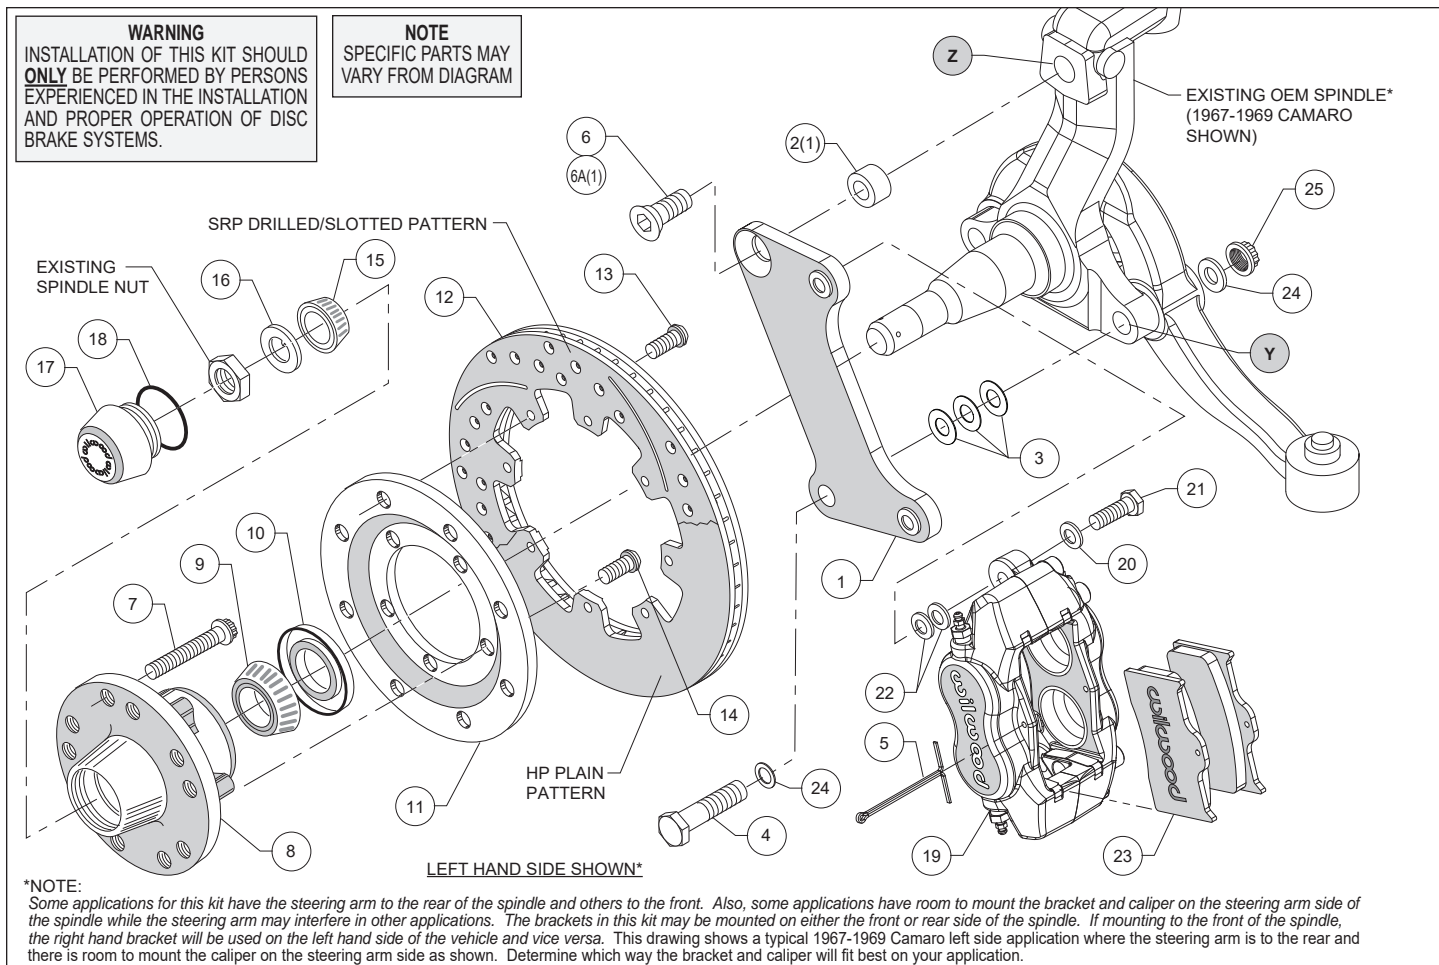
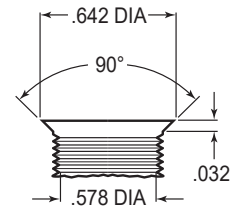

Figure 1. Typical Installation Configuration
Figure 3. Drill and Tap Detail
**Assembly Instructions** (numbers in parenthesis refer to the parts list and Figure 1 on the preceding page): **CAUTION:** All mounting bolts must fully engage clinch nuts. Be sure to check that all bolts are either flush or protruding through flanged side of clinch nut after shimming, Figure 4.
•**NOTE:** Some applications for this kit have the steering arm to the rear of the spindle and others to the front. Also, some applications have room to mount the bracket and caliper on the steering arm side of the spindle while the steering arm may interfere in other applications. The brackets in this kit may be mounted on either the front or rear side of the spindle. If mounting to the front of the spindle, the right hand bracket will be used on the left hand side of the vehicle and vice versa. Figure 1 shows a typical 1967-1969 Camaro left side application where the steering arm is to the rear and there is room to mount the caliper on the steering arm side as shown. Determine which way the bracket and caliper will fit best on your application.
•**NOTE:** Some spindles in this year range may require the following modifications (reference Figure 1 and Figure 3): Top anchor pin hole (Z) must be drilled and tapped to the dimensions as outlined in Figure 3. The lower bolt hole (Y) in the spindle used to mount the new caliper bracket, and the mating steering arm hole, must be enlarged to .50" by drilling. It is recommended these modifications be performed by a qualified machinist.
•Install wheel studs (7) into the hub (8), Photo 1. Torque to 77 ft-lb. **NOTE:** There are two five lug patterns in the hub (5 x 4.50 and 5 x 4.75). Ensure the correct hub stud pattern is being used to fit the wheel application.
- Pack the large inner bearing cone (9) with high temperature disc brake bearing grease (available from your local auto parts store) and install into the backside of the hub (8), Photo 2.
- Install the grease seal (10) by pressing into the backside of the hub (8), flush with the end of the hub, Photo 2.
- Orient the rotor (12) and the rotor adapter (11) as shown in Figure 1 and Photo 3. Attach the rotor to the adapter using bolts (13). Using an alternating sequence, apply red *Loctite*® 271 to the threads, and torque to 25 ft-lb.
- Mount the adapter/rotor assembly (11 and 12) to the hub (8) using bolts (14), as shown in Figure 1 and Photo 4. Using an alternating sequence, apply red *Loctite*® 271 to the threads, and torque to 45 ft-lb.
- Disc Brake Spindle Application Only:** Follow the instructions below, but instead use bolt (6A), and spacer (2) in the upper bolt hole location, Figure 1.
- Orient the flat bracket (1) as shown in Figure 1 and Photo 5, and install using bottom bolt (4), washers (24), and nut (25), Figure 1. Initially place three .032" thick shims (3) between the bracket and spindle. Install the upper bolt (6 or 6A), Photo 6. Temporarily tighten bolts. **NOTE:** *The bracket must fit squarely against the mounting surfaces on the spindle.* Inspect for interference from casting irregularities, machining ridges, burrs, etc. Ensure that the flanged heads of the clinch nuts in the bracket are facing outboard. Temporarily install the hub/rotor assembly. Check that the bracket is aligned parallel to the rotor, Photo 7. If not, adjust by adding or subtracting shims (3) on the lower bolt between the bracket and spindle, Figure 1. Once the bracket alignment is correct, remove the upper bolt (6 or 6A), apply red *Loctite*® 271 to the bolt threads, and torque to 120 ft-lb. Torque the lower lock nut to 65 ft-lb.
- Pack the small outer bearing cone (15) with high temperature disc brake bearing grease and install into hub (8). Slide the hub/rotor assembly onto the spindle. Secure using spindle washer (16) and OEM spindle nut, Photo 8. Adjust bearings per OEM specifications. Install saved OEM nut lock (if any) and a new cotter pin (not included).
- Screw dust cap (17) into hub (8). Friction created by the o-ring (18) on the dust cap keeps it from unscrewing. **NOTE:** *The O.D. of the existing OEM spindle washer may be larger than the I.D. of the dust cap not allowing it to seat against the hub face. Therefore, use the spindle washer (16) supplied with the kit instead of the OEM washer.*
- NOTE:** *Please reference the caution statement at the beginning of the assembly instructions.* Mount the caliper (19) onto the caliper bracket (1) using bolts (21) and washers (20), as shown in Figure 1. Initially place two .035" thick shims (22) on each bolt between the caliper and the bracket, Photo 9. Temporarily tighten the mounting bolts and view the rotor (12) through the top opening of the caliper. The rotor should be centered in the caliper, Photo 10. If not, adjust by adding or subtracting shims (22) between the bracket and the caliper. Always use the same amount of shims on each of the two mounting bolts. **NOTE:** *The end of the bolt must be flush with or slightly*